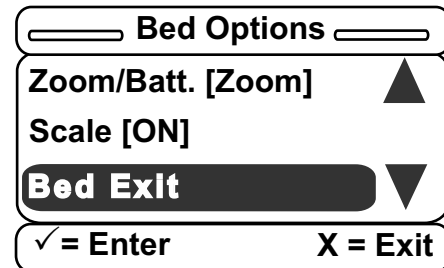

Figure 35 – Bed Options menu
- After you set the Scale option, you will return to the Bed Options screen to set the Bed Exit option (Figure 35).